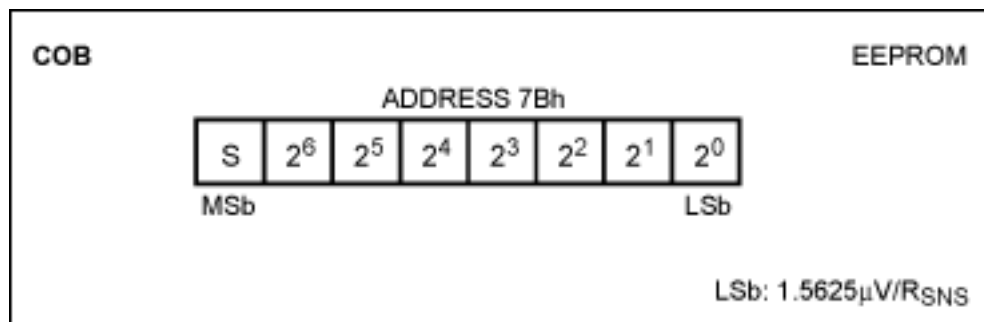

Figure 1. The calculated COB value should be written to address 7Bh using the above COB register format.
**Figure 1** illustrates the COB register format. COB is an 8-bit, two's complement value stored in 1 byte of the parameter EEPROM memory block. The COB register value can be adjusted from -199.68µV to +198.12µV in steps of 1.5625µV.